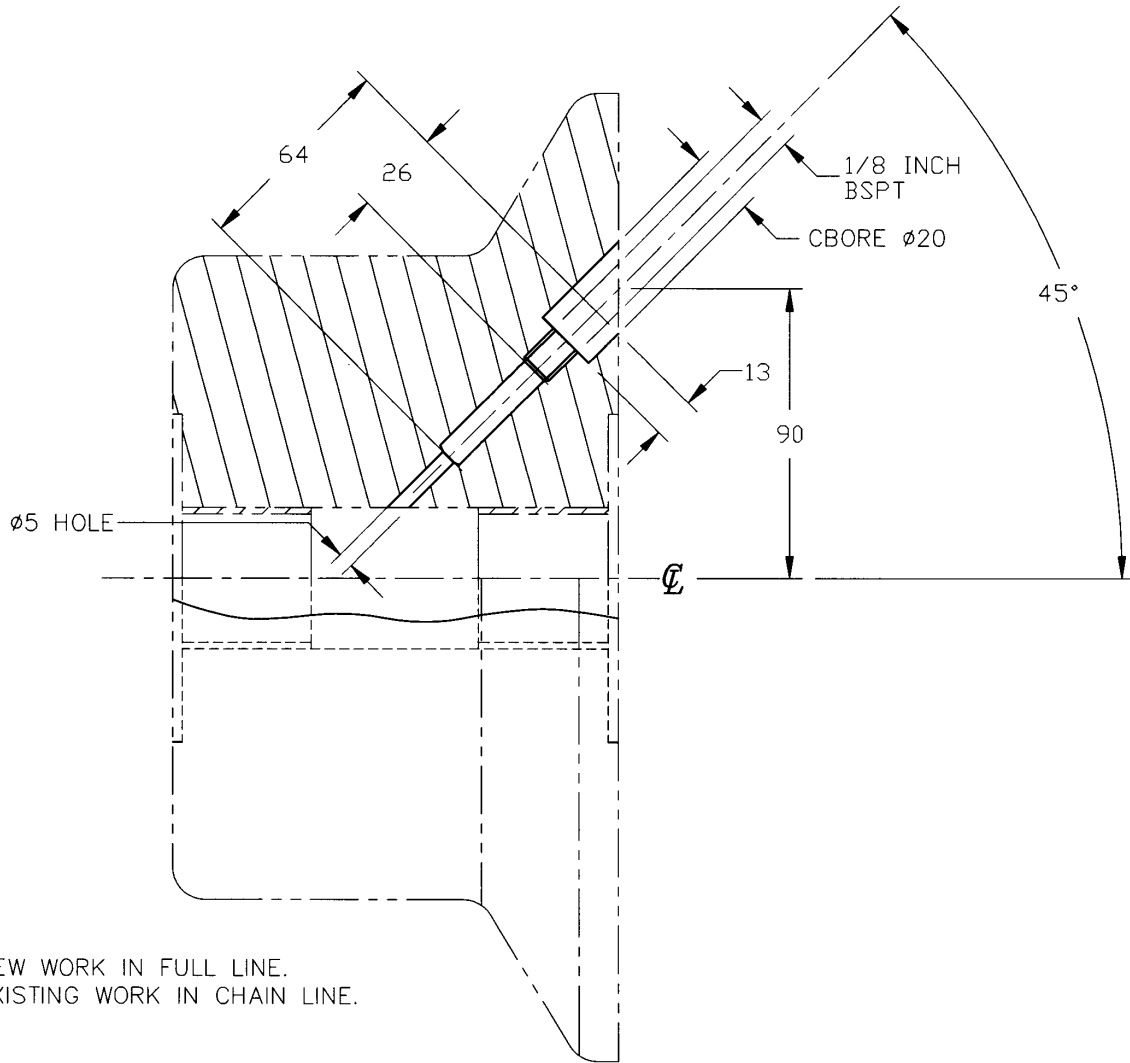

Figure 1 – Guide Roller Modification
- b. Drill and tap roller, as detailed in Figure 1.